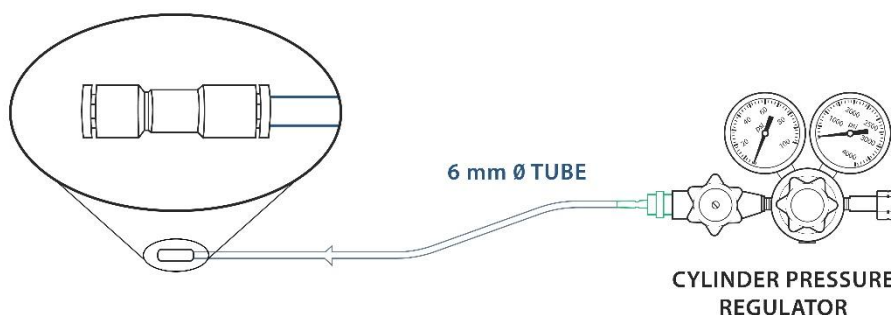

Figure 3-4
- 2. One Touch valves** - - Install the One Touch Valves (provided in the package) along the gas line for each of the gas source in use (Except for CO₂). In order to do so, take the free end of the tube previously connected to the pressure regulator and insert it in the valve through the push-in connector (Figure 3-4). In case of different valves type use, please contact the MCQ INSTRUMENTS support center.